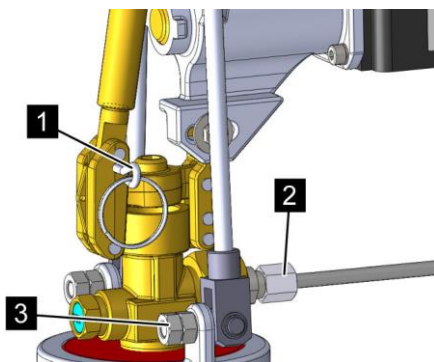

Fig. 72: Lock pin
Ensure that the lock pin (Fig. 72/1) is inserted in the valve.
8. ➤ Mount M8x20 ring bolts with nuts (Fig. 72/3) on the fastenings of the holding rods in such a manner that the ring is vertical and points in the direction of the control connection (Fig. 72/2).